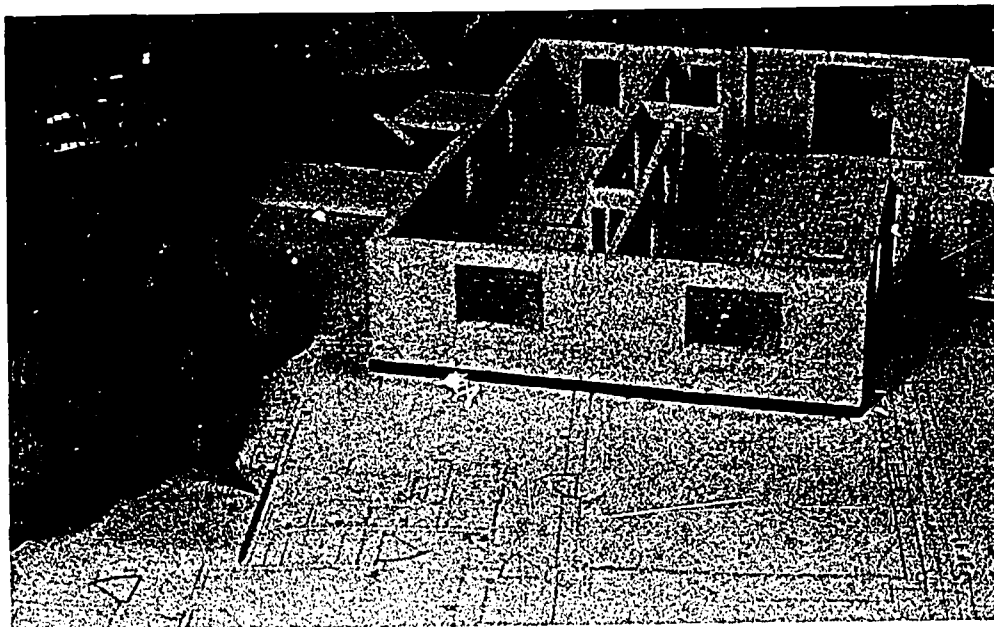

Fig. 84ABC-1. Laying Out an Interior Wall
3. Place the squared material along one interior wall of the floor plan. Trace and mark to length. See Fig. 84ABC-1.